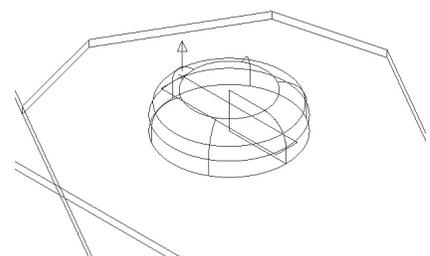

Fig. 59
Step 7. The direction arrow the chain should **point up**, **Fig.59**. If the arrow points in the wrong direction, click Reverse It.